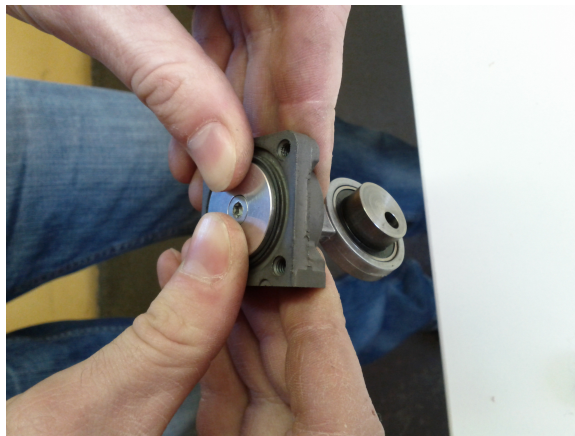

Figure 3.16: Push the plate down
5. Gently push the rod halfway through the bottom part of the head, as shown in figure 3.16. If you push it to wide, you will have to unscrew the con rod and redo every step until now.